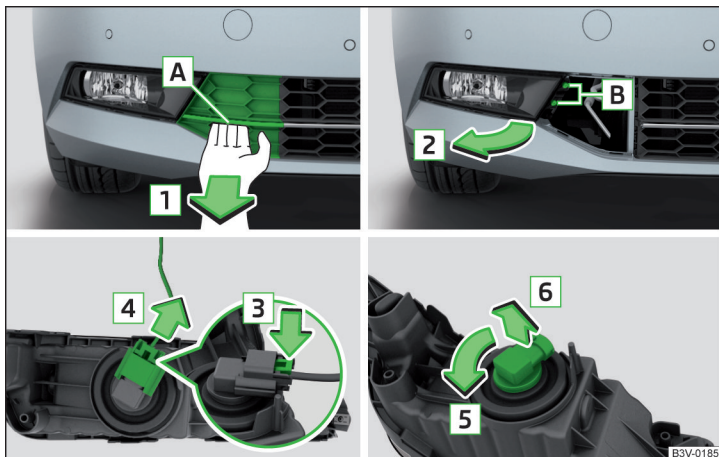

Fig. 264 Remove the number plate light / replace the bulb
- Insert your finger in the hole **A** and remove the grille by pulling in direction of arrow **1** » Fig. 264.
- Replace the fog light by inserting it in the opposite direction of the arrow **2** » Fig. 264 and tighten.